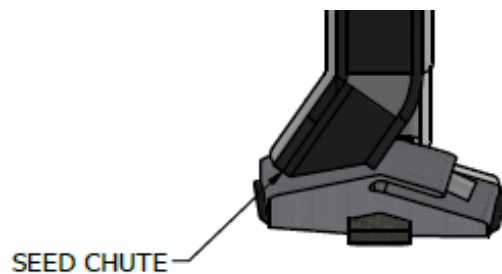

Figure 2: Seed chute on "left" opener
- 1) Bolt openers to the shank using the provided $\frac{1}{2}$ " x 2 $\frac{1}{2}$ " bolts and nuts. Install the spacer shank between the opener and the shank. Mount the openers with the seed chute pointed to the center of the drill (see Figure 2 below).
High-rate side band liquid and NH₃ openers must be installed with the seed chutes oriented to the center of the drill. A left opener will have the seed chute on the left side as seen in Figure 2.